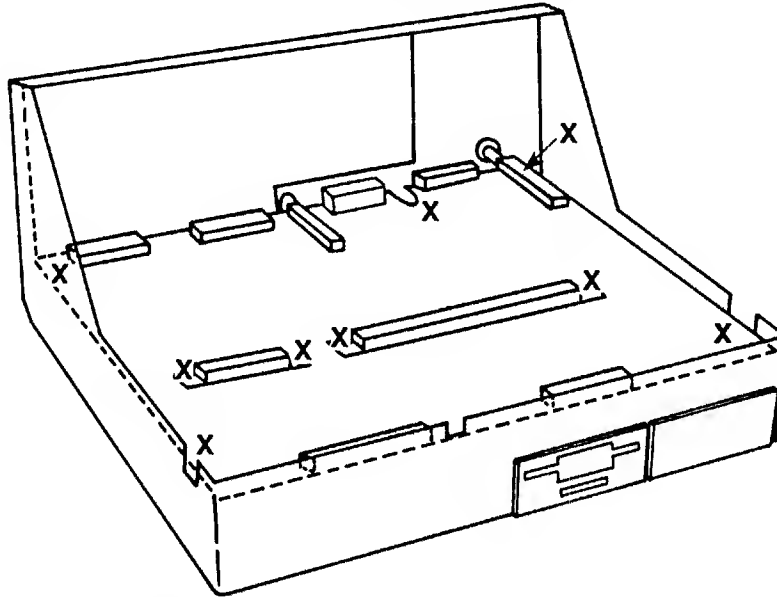

Figure 2-3. Controller Board Retaining Screw Locations
2. Using the screwdriver, remove the five screws (see figure 2-3). Use the nut driver or allen wrench to remove the four guide pins located at the socket module connectors. If you are using the allen wrench for removal, insert it into the small holes in the sides of the guide pins.